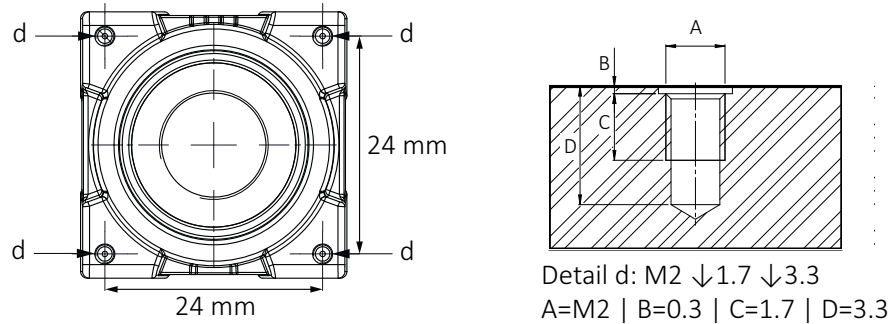

Figure 62: Camera front with mounting threads (c)
1. Mount the camera to the base using suitable M2 screws at 0.17 Nm maximum torque for a thread engagement (C) of 1.7 mm between screws and mounting threads, see Figure 62. For technical drawings, see G1 Closed Housing: Dimensions and mass on page 154.